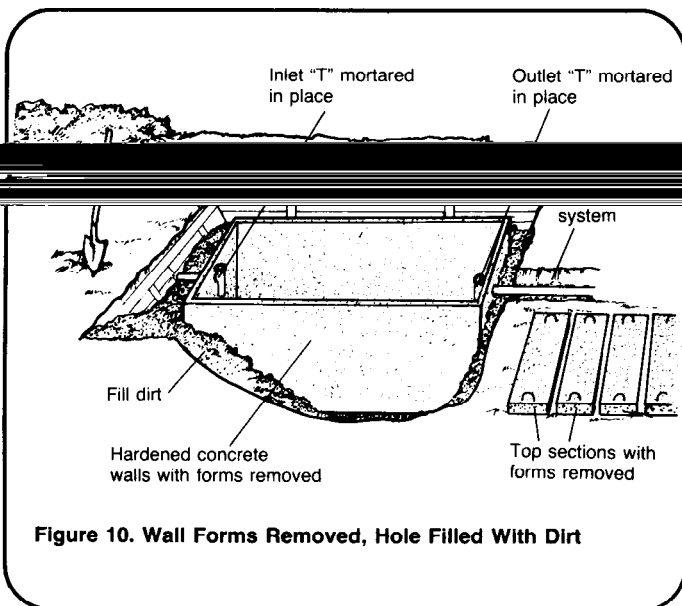

Figure 10. Wall Forms Removed, Hole Filled With Dirt
16. Add a little water to fill dirt and carefully shovel into the space between the septic tank and the earth walls of the hole as shown in Figure 10. The water will help prevent later settling. Tamp dirt well. Be careful not to disturb or damage the sewer pipe or the inlet and outlet fittings.